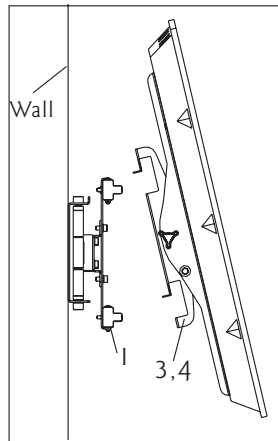

Fig 3a
Firstly lift the bracket mounted display over the wall mount. And then hook the brackets over the top of the wall mount. Rotate the display let the bottom of the brackets hook over the bottom of wall mount, as shown in Fig.3a. Then use the Safety plate (5) through top of Bracket and into foot of Bracket, to secure the assembly, and turn it tightly, see Fig.3b. Set up the lock at last.